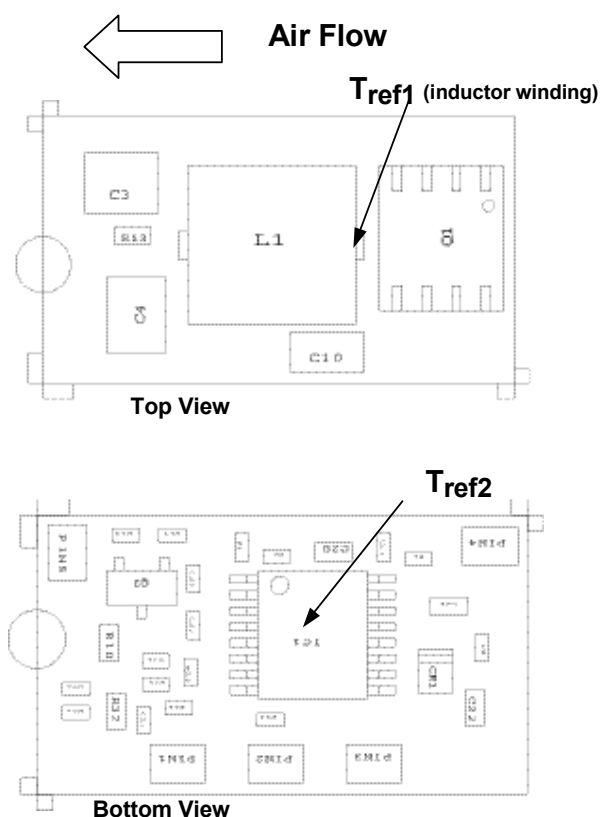
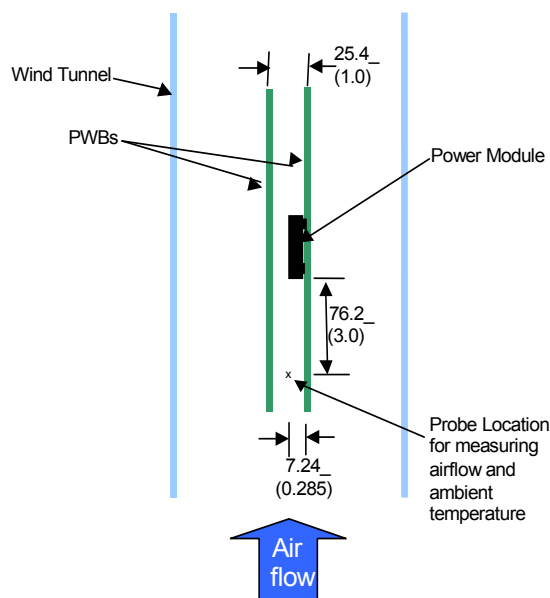

Figure 32. T_{ref} Temperature measurement location.
Figure 33. Thermal Test Set-up.
Considerations include ambient temperature, airflow, module power dissipation, and the need for increased reliability. A reduction in the operating temperature of the module will result in an increase in reliability. The thermal data presented here is based on physical measurements taken in a wind tunnel. The test set-up is shown in Figure 33. Note that the airflow is parallel to the long axis of the module as shown in figure 32. The derating data applies to airflow in either direction of the module's long axis.
The thermal reference point, T_{ref1} used in the specifications of thermal derating curves is shown in Figure 32. For reliable operation this temperature should not exceed 125°C.